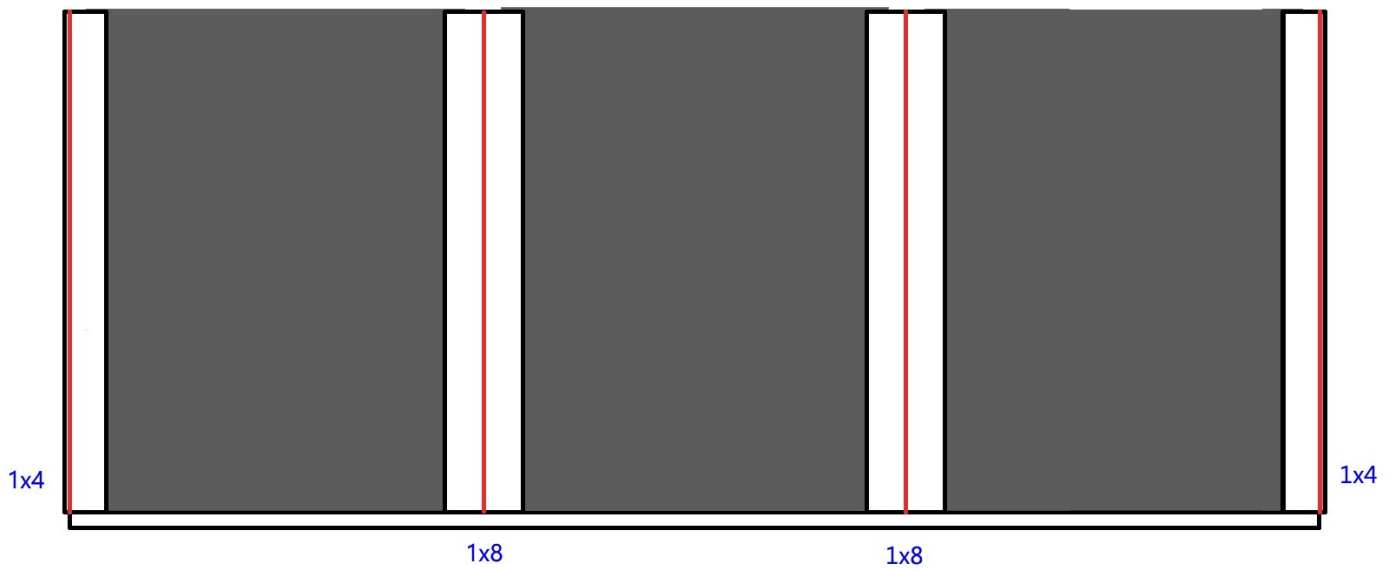

Figure 2
- D) Pre-drill screw holes in the four front pieces so that they don't crack, and attach them to the front edge of the four sides, as in Figure 2. This forms the slots for the slats.